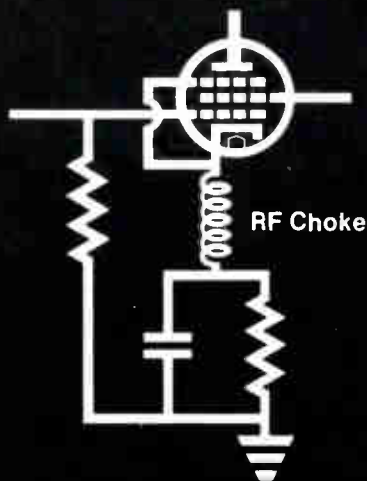

Fig. 14
1. Interference in tube type equipment can be avoided by connecting an RF choke (ranging in value from 2 millihenry to 5 millihenry) in the upper end of the cathode circuit as shown in Figure 14.